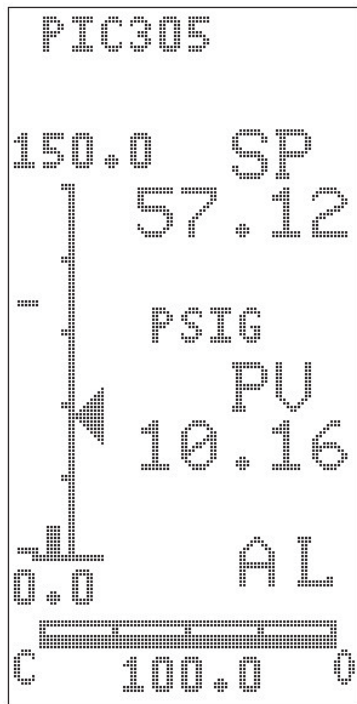

Figure 3: Single Loop
A dot matrix gas discharge display provides the operator window to the process. A family of standard preconfigured displays incorporating dynamic bargraphs, trends, and digital data are stored in the 53MC5000. These include; Single Loop, Single Loop with PV Trending, Two Loop, Four Loop, Parameter, Point Status, and System Status (diagnostic) displays. Additional custom displays of dynamic and static data can be developed by the user or MicroMod Automation for specific process application requirements. Displays are oriented in a configurable hierarchy for easy selection. The display hierarchy may be modified for any user applications. Examples of the standard displays are presented in Figures 3 through 11.
type of alarm. The PV bargraph is displayed with a scale including the minimum and maximum range values. Process variable engineering units are also displayed. The control Output (OP) is represented as a horizontal bargraph and a digital value. 0% output may be either Open (O) or Closed (C) as required. Auto/Manual and Remote/Local status indications are displayed at the bottom of the screen (see Fig. 3).